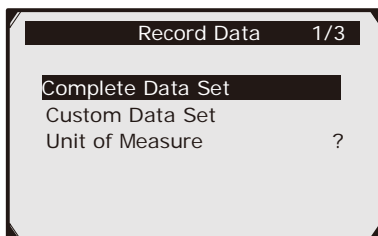

Figure 5.20
1. To record customized data, use the **Up/Down** scroll button to select **Custom Data Set** from **Record Data** menu (**See Figure 5.20**) and press the **OK** button.